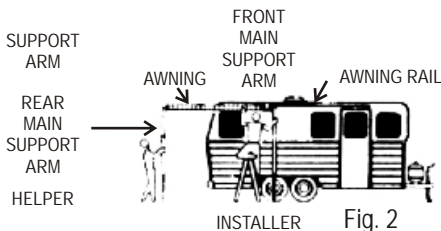

Fig. 2
E. Now, carry the complete awning towards the rear of the unit until the front arm comes in front of the rail end. Slide in slowly the canvas by using a step ladder. After a few feet in, you now can slide in the whole awning. Make sure to keep tension on the canvas so you will eliminate friction and it will make the operation easier. (See Fig. 2)